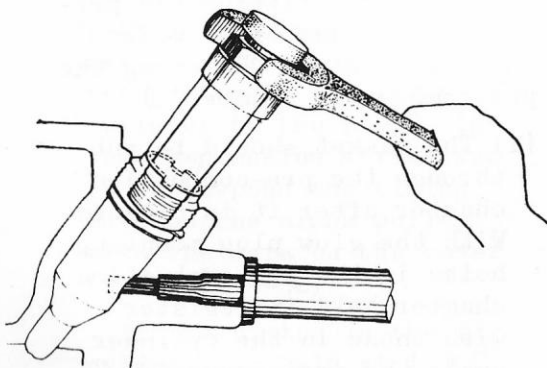

Fig. 4-57
- (2) The pre-combustion chamber should be properly aligned by inserting the pre-combustion chamber aligner through the glow plug mounting hole. (See Fig. 4-57)